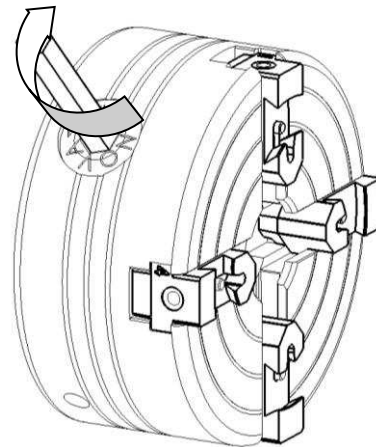

Figure 1
1. Using the supplied Chuck Key, turn the chuck pinion gear clockwise to open the jaws to their outer most position (as in Figure 1).